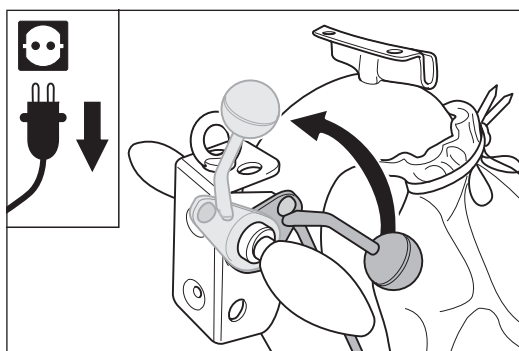

Fig. 26 Lift the sanding drum off the floor by turning the lowering lever at the handle upwards.
- 1 Lift the sanding drum off the floor by turning the lowering lever at the handle upwards (Fig. 26).
- **Always lift the sanding drum off the floor before switch on the machine (Fig. 26)!**